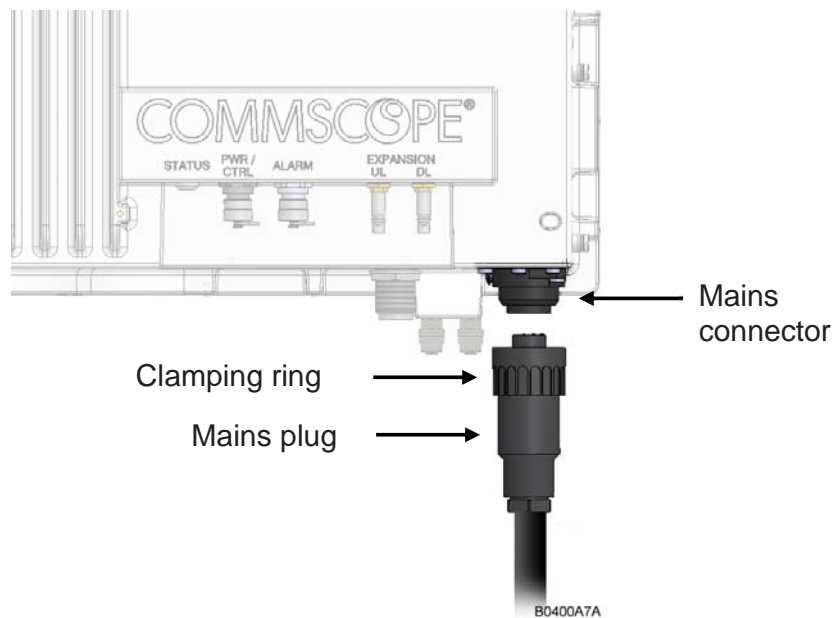

figure 4-22 Connect mains plug
8. Insert the plug into the Mains connector (figure 4-22) and tighten the clamping ring until it is hand tight. Do not over-tighten the clamping ring.